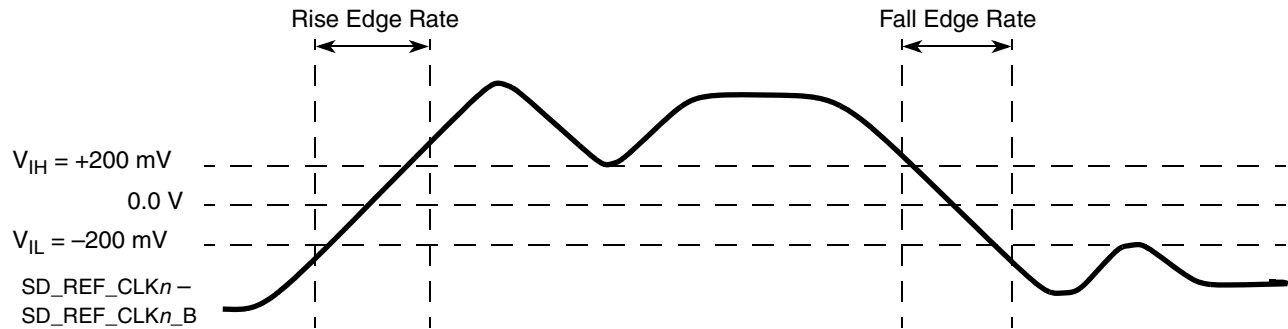

Figure 42. Differential Measurement Points for Rise and Fall Time
- 3 Measured from –200 mV to +200 mV on the differential waveform (derived from SD_REF_CLKn minus SD_REF_CLKn_B). The signal must be monotonic through the measurement region for rise and fall time. The 400 mV measurement window is centered on the differential zero crossing. See Figure 42.